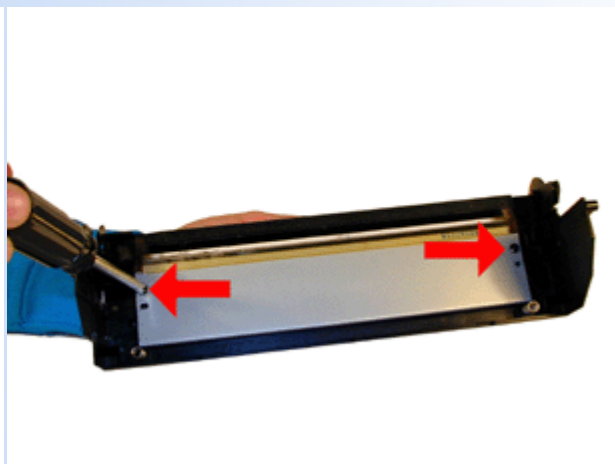

FIGURE 4
5. There are 2 screws on the Wiper Blade. Remove them and gently pry the felt seal from both sides of the blade. See Figures 4 & 5.